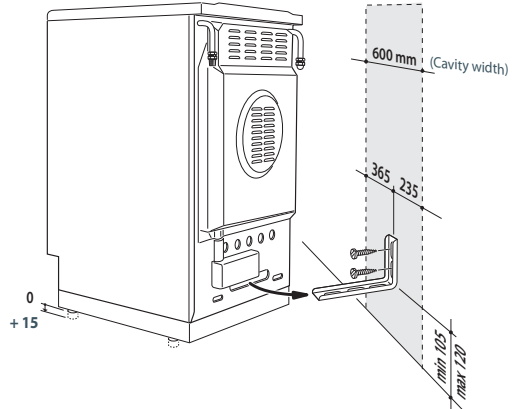

Fig. 3a Fitting the anti-tilt bracket
- 1 After you have located where the cooker is to be positioned, mark on the wall the place where the two screws of the anti-tilt bracket have to be fitted. Please follow the indications given in Fig. 3a.
- 4 Move the cooker to the wall and adjust the height of the anti-tilt bracket so that it can engage in the slot on the cooker's back, as shown in Fig.3a.